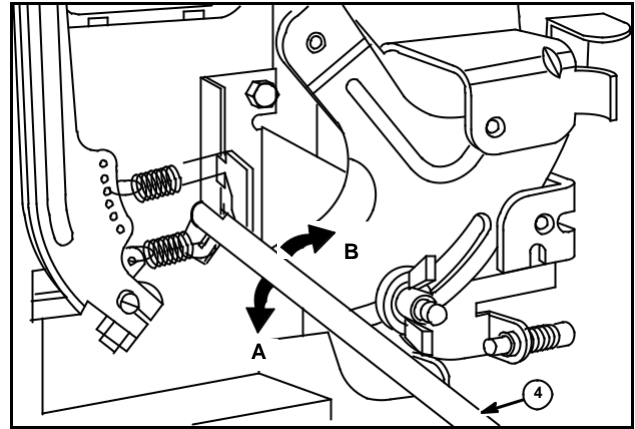

Fig. 24
Series 93400 (Fig. 24)
2. Move speed control lever to obtain 1800 RPM. Use Tool 19229 (4) to bend governed idle speed tang up against speed control lever, ("A" to increase, "B" to decrease), Figs. 24, 25.